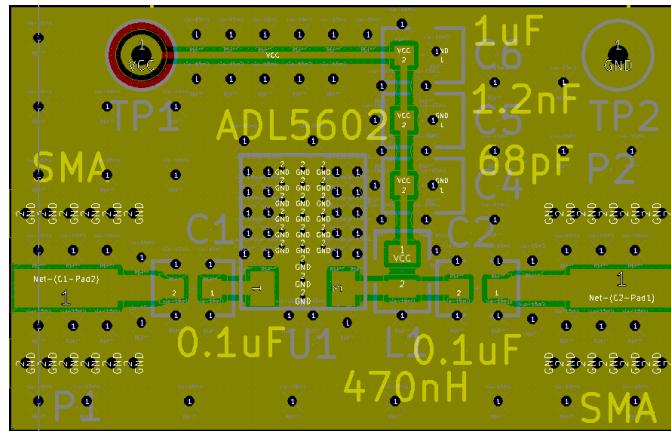

Figure 49: Layout of the example 2 circuit after via stitching.
5. In the Pcbnew, click the “Add footprints” button and click on the main layout window to insert a footprint directly. Select the “via-15mil” footprint and place it along the edges of the copper fill. For via fences around RF traces, a rule of thumb is to set the via spacing no larger than 1/20th of the propagation wavelength. Obviously you also need to make sure that the via spacing is not too small as to violate the design rules of the PCB manufacturer. Fig. 49 shows the layout after the via stitching.